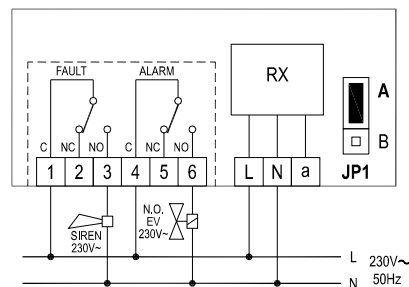
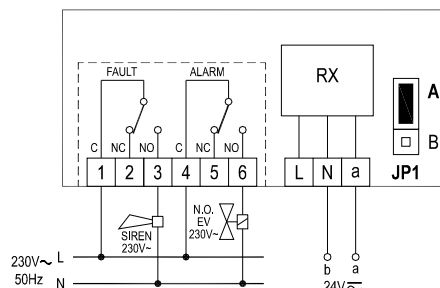
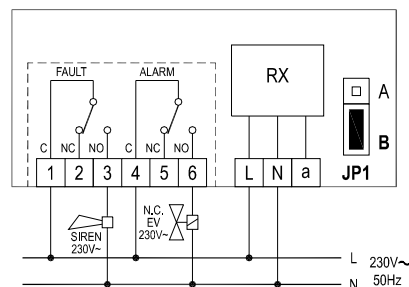

Fig. 8
Fig. 9
Fig. 10
- 7 Make electrical connections according to the wiring diagram in Fig. 8, 9, 10 or 11 and the paragraph "Electrical Connections".
Figures 8 and 9 shows how to connect a normally open electro valve (N.O.) that will be powered when the "alarm" output is activated, i.e. when the transmitter sends the "alarm" command to the receiver using the N.A. relay contact set with direct logic (**JP1** jumper on position **A**).
Figures 10 and 11 shows how to connect a normally closed electro valve (N.C.) that, in absence of alarm condition from the detector transmitter, will be always powered. The N.O. "alarm" relay contact is used and set with reverse logic (**JP1** jumper on position **B**). When the transmitter sends the "alarm" command to the receiver, the "alarm" output will cut the power supply to the electro valve. In each example of figures 8, 9, 10 and 11 show how to connect an audible warning device to the "fault" output (Fault). The outputs, terminals 1 to 6, are voltage free and insulated with reinforced insulation towards the other circuits of the receiver. Therefore, a receiver can be supplied with SELV low voltage (24V~), while controlling a high voltage load (230V~), as shown in Fig. 9 or 11.